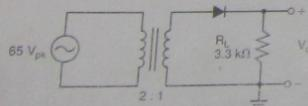

FIGURE 3.50
- Determine the transformer secondary V_{pk} in Figure 3.50.
- Determine the peak load voltage for the circuit shown in Figure 3.50.
- Determine the average (dc) load voltage for the circuit shown in Figure 3.50.
- Assume that the diode in Figure 3.50 is reversed. Determine the new values of $V_{L(\text{pk})}$, V_{ave} , and I_{ave} for the circuit.